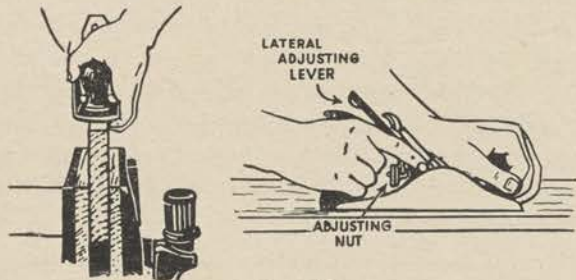

Figure 74.
a. Two kinds of planes will be found useful for smoothing and truing up lumber. The jack plane is designed to cut with the grain, the block plane across the grain. The jack plane is about 14 inches in length and is held in either of the two manners shown (fig. 74). The depth of cut is determined